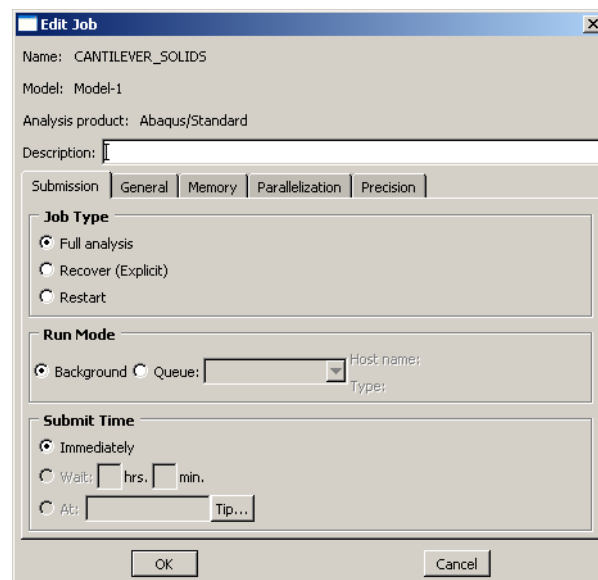

Figure 26. Edit Job Dialog Box
- The **Edit Job** dialog box will immediately appear (Figure 26).